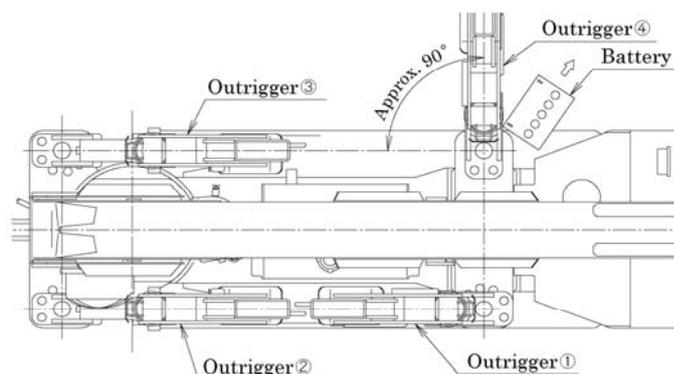

Fig. 3 Extension angle of outrigger in detail
(3) Put the extension angle of outrigger ④ to an angle of approx. 90° as in the Fig. 3.